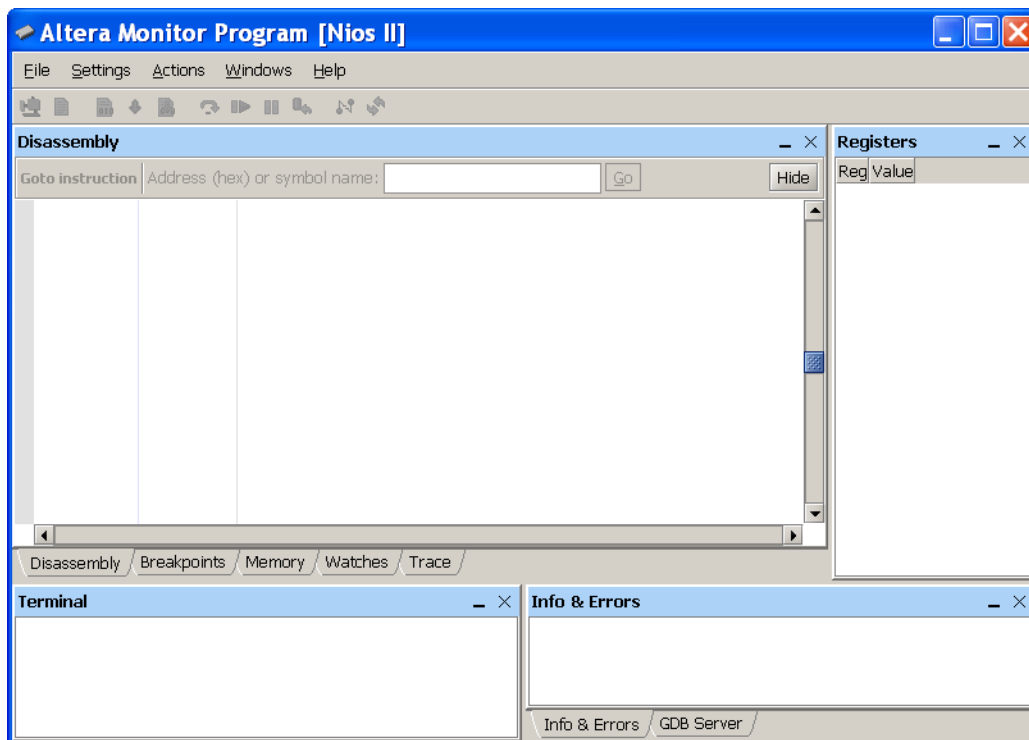

Figure 1. The Altera Monitor Program window.
2. Open the Altera Monitor Program, which leads to the window in Figure 1.